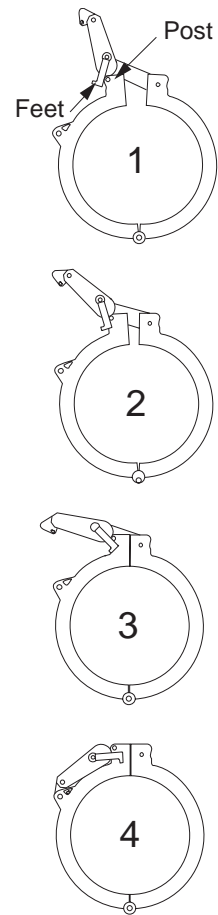

Figure 21
3. Install clamp around dome/base interface. Use the feet of the clamp handle to close the gap in the clamp. (Fig. 21)